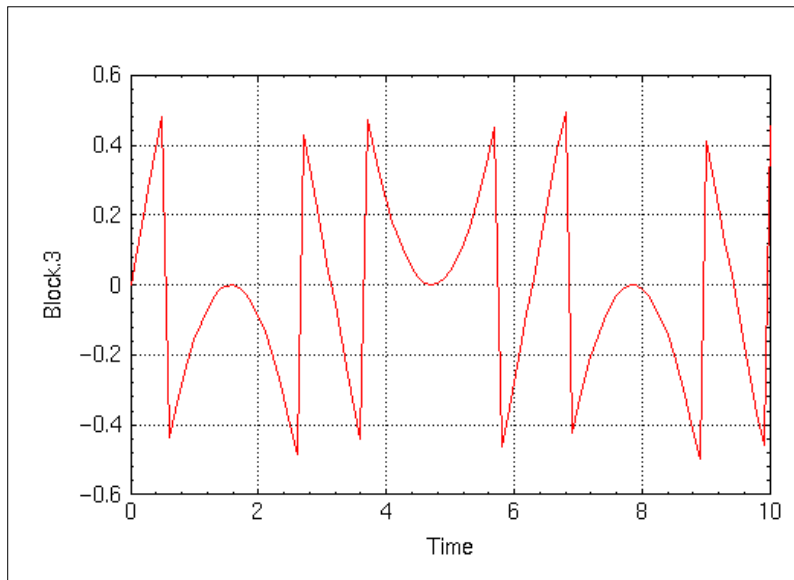

FIGURE 15-12 Plot of Comparison with Radix Position 0
7. To observe the impact of the Radix Position on the precision of a vector of values, change the output radix position of block 1 to 0, and change the input radix position of block 2 to 0. Select Tools→Simulate and click OK to rerun the simulation (the dialog remembers your last settings). The output plot should look like Figure 15-12 on page 15-20.